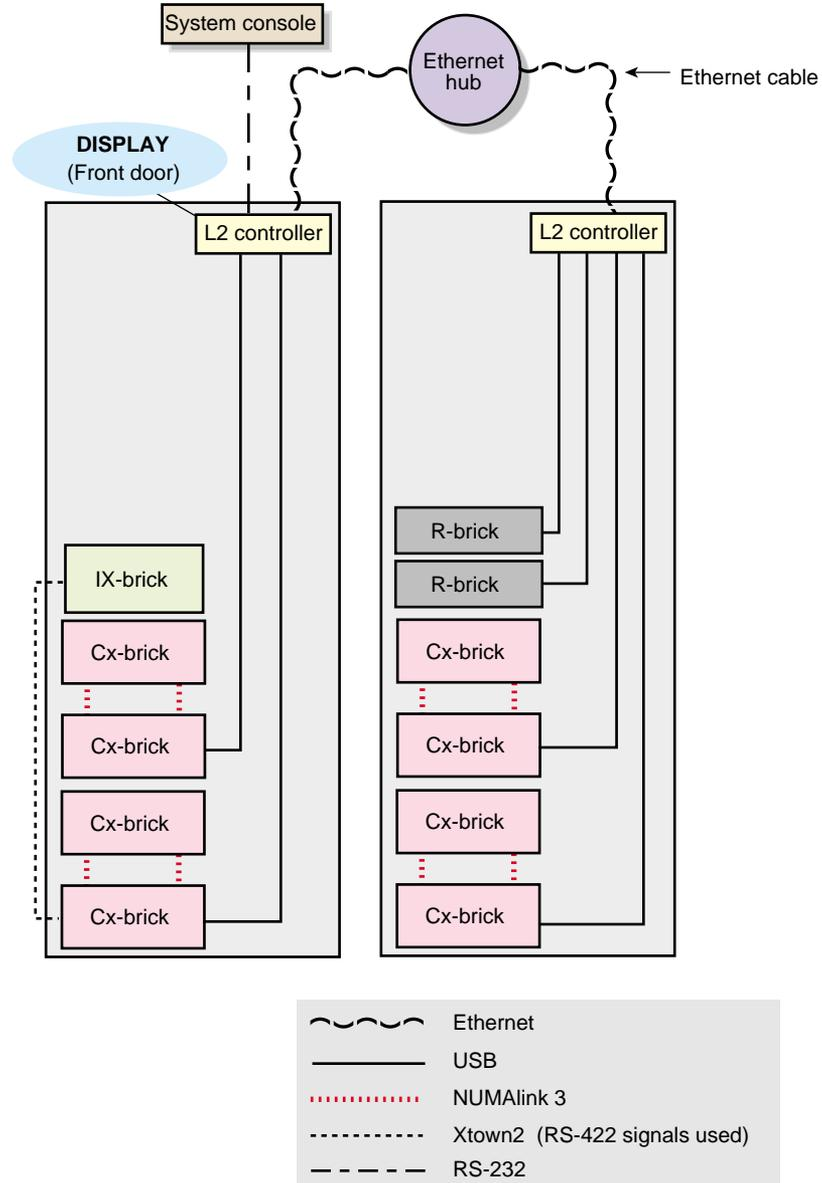

Figure 1-1 Connecting System Console to Multiple L2 Controllers
2. Connect your console to the Ethernet hub or to the Console port of an L2 controller as shown in Figure 1-1. The connection of the system console to the Console port requires a special cable that you can purchase from SGI. This configuration also requires terminal emulator software (not available from SGI).